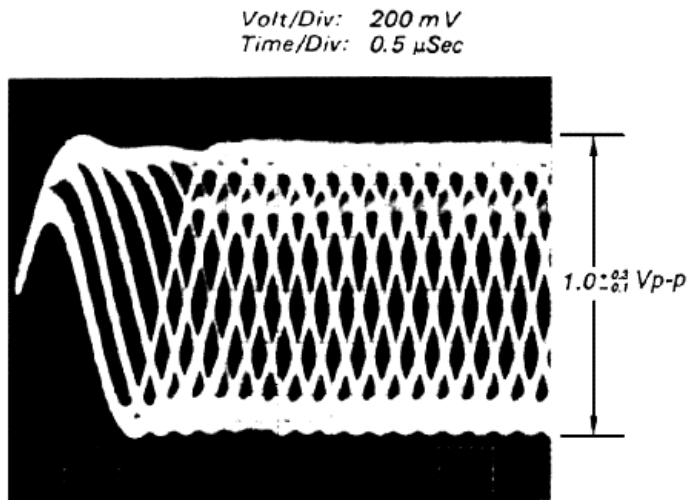

FIGURE 28-15 Notice the sharp diamond-shaped RF waveform in an auto CD changer.
- 1 Connect the oscilloscope to servo board test point RF (Fig. 28-15).